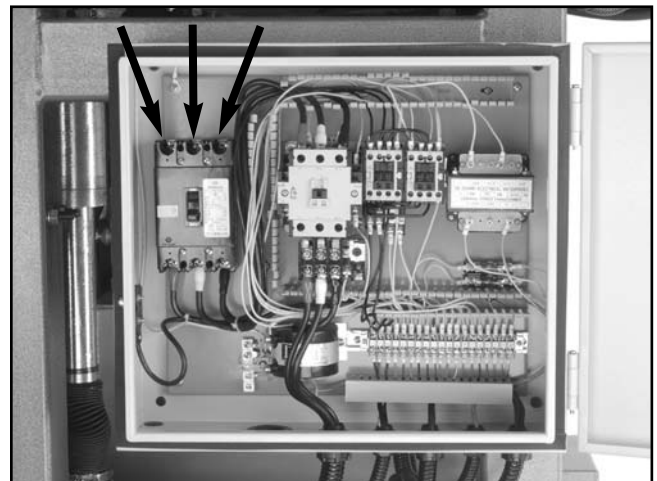

Figure 22. Circuit breaker terminal.
3. Connect the cord to the machine circuit breaker terminals shown in **Figure 22**.